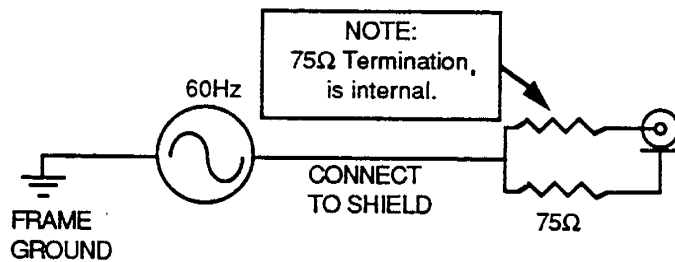

Figure 1-2. Common Mode Adjustment Connection
2. Connect the oscillator or transformer to the input as shown in Figure 1-2.